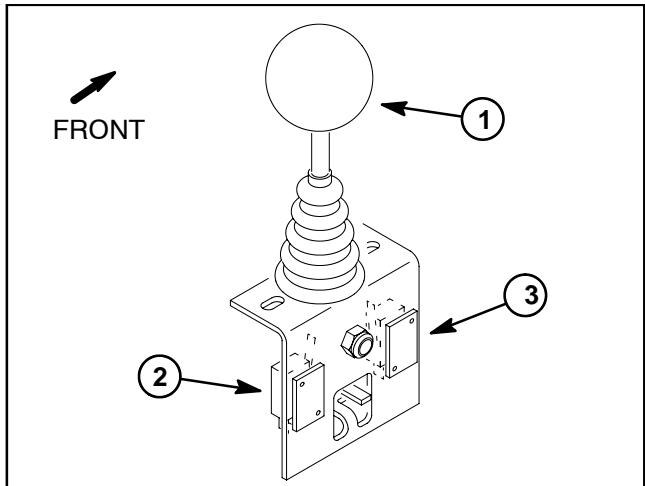

Figure 39
C. Disconnect harness electrical connector from the raise or lower switch that is to be tested (Fig. 39).